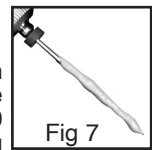

Fig 7
**6.** Coat the bi-directional spiral with thick layer of cement (Fig 7) and place into the canal. Run the spiral at 1,000 RPM for approximately 5 seconds using a slow, circular up and down motion of at least 7-8 stokes depicted in figures 8, 9, and 10. **Use the bi-directional spiral 3mm short of length. If the canal is severely curved, only take the bi-directional spiral to the point of curvature.** The bi-directional spiral will force the cement laterally coating the walls and filling any accessory canals.